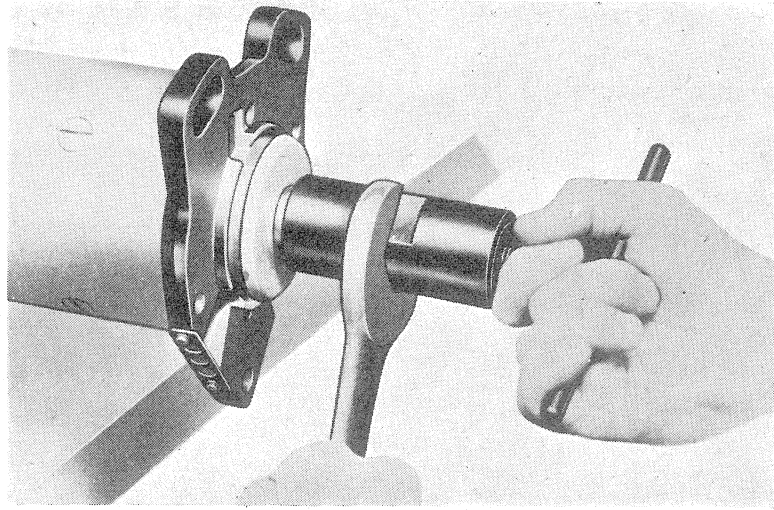
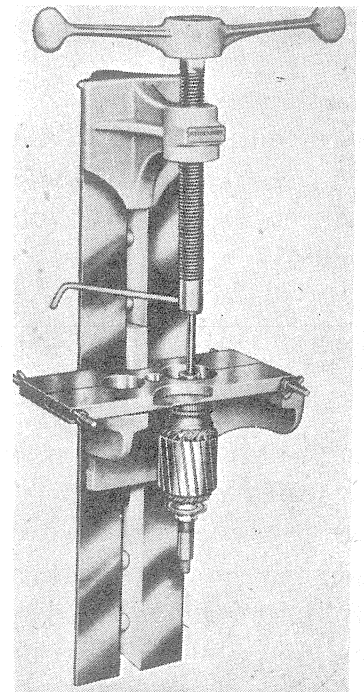

FIGURE 2
FIGURE 3
2. Withdraw the flange baffle plate fastening screws and remove the baffle plate (1).
3. Remove the oil slinger (5) using tool TSE 602—see Figure 2.
4. Withdraw the bearing retaining plate fastening screws (3).
5. Remove the garter band (20) and loosen the field coil leads from the brush holders.
6. Remove the through bolt hexagon nut (23), lock washer (21) and through bolt (22).
7. Tap end plates (2 and 28) with a mallet to remove them from the generator frame; withdraw armature (18).
8. Remove the bearings using Weidenhoff Puller Press No. 967 or equivalent. See Figure 3.